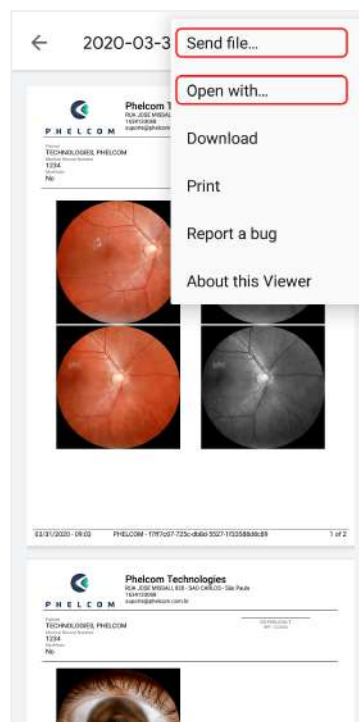

Figure 89: File options
2. Send file, open with, download, print or report a bug, figure 89